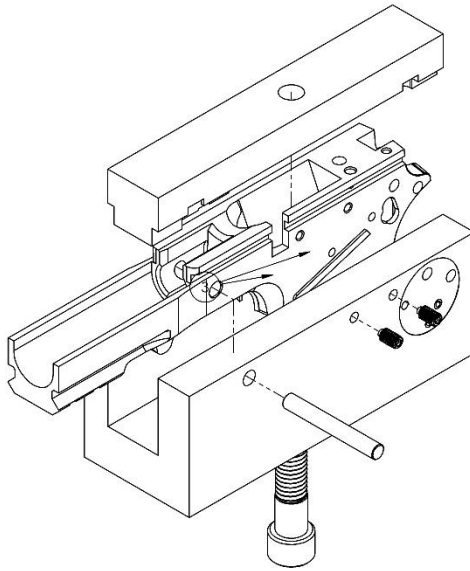

Figure 1. Rudius Jig Assembly
- 1 Assembly the Rudius into the jig as shown in Figure 1.